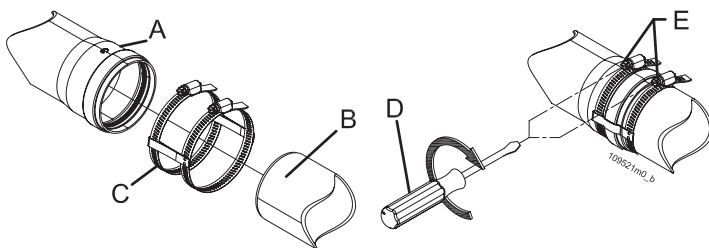

Figure 5-18 – Fixing the exhaust and intake pipes
**! WARNING!** Mechanically secure the joints between the various component elements of the exhaust and intake pipe, through the use of fixing systems or equivalent systems. See figure 5-18